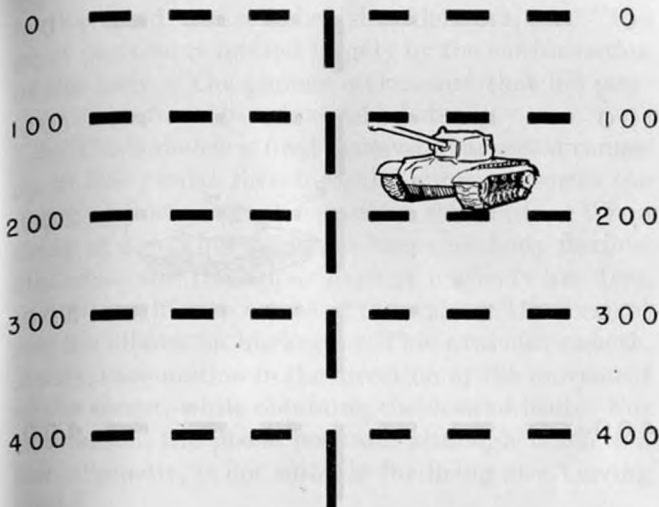

Figure 30. Target, 200 yards away, approaching from the right front at an angle of 45° and a speed of 20 m. p. h.
2. If the angle is from 45° - 90° the gunner again places the selected horizontal range line either on top or at the bottom of mass to compensate for range change and allows for lateral movement by dividing the speed in half and applying the appropriate lead (figs. 30 and 31).